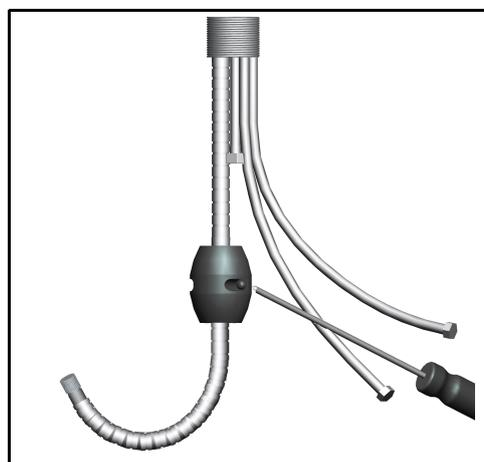

Figure 4
5. Unscrew both screws of the counterweight until it is in two pieces. Place half of the counterweight on the center section of the motion hose. Then place the remaining half against and insert the screws. Do not tighten the screws completely at this step (**Figure 4**).